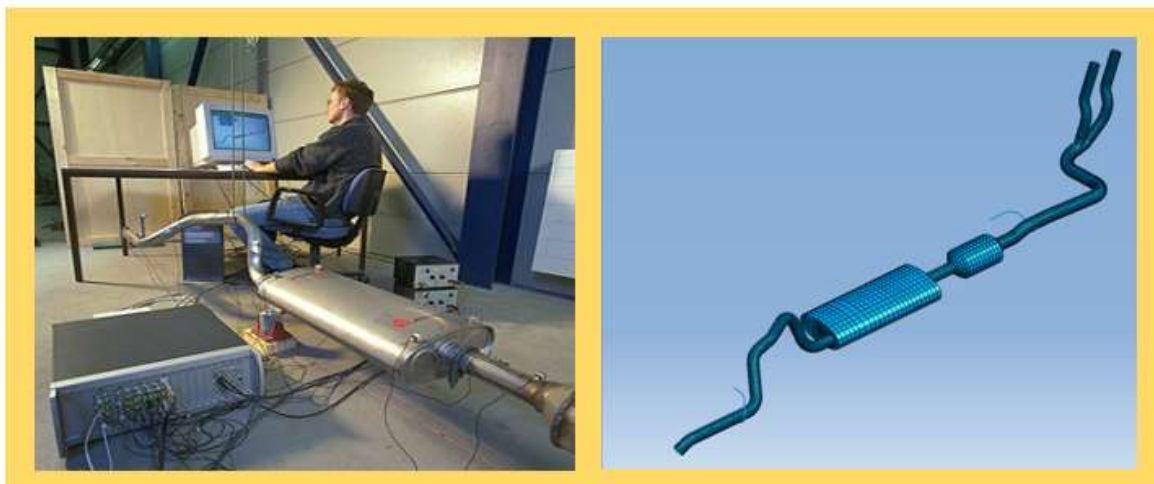

Figure 4: Experimental modal analysis (left) versus a finite element analysis (right) of an exhaust system
- FEA-Test comparison – A MAC can be used to compare modes from an experimental modal analysis test to a Finite Element Analysis (FEA) and an object as shown in *Figure 4*. It will indicate if the same mode shapes are found in both the test and FEA analysis.